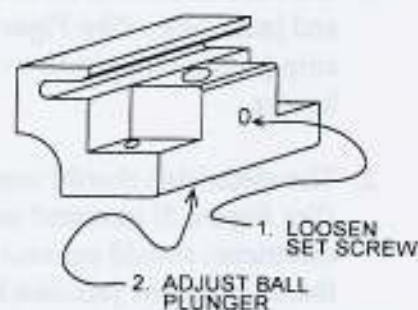

Figure 41
5. Retighten the set screw and reinstall it into the top of the door. Repeat as necessary (See Figure 41).